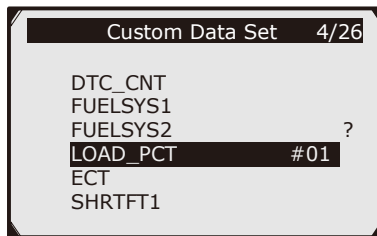

Figure 5.17
3. Use the **RIGHT** button select/deselect data parameters. Selected parameters are marked with solid squares. Press the **OK** button to confirm. (See **Figure 5.17**)